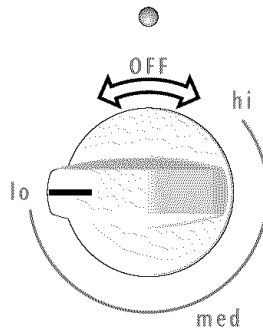

Fig. 1
2. Push in & turn the surface control knob in either direction to the desired setting (Refer to Fig. 1 & the **Suggested Radiant Surface Element Settings Table** on page 7). Start most cooking operations on a higher setting & then turn to a lower setting to finish cooking. The surface control knobs do not have to be set exactly on a particular mark. Use the marks as a guide & adjust the control knob as needed. Each surface element provides a constant amount of heat at each setting. A glowing red surface heating area extending beyond the bottom edge of the cookware indicates the cookware is **too small** for the surface heating area.
1. Push in & turn the knob in either direction to the desired setting (See Fig 1). The temperatures are approximate & are designated by **HI**, **MED** & **LO**. However, the control can be set at any position between **HI** & **LO** for different levels of warming.